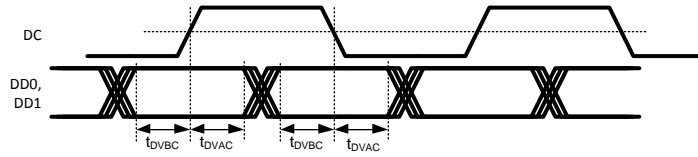

Figure 2. Serial Data Valid
| $t_{DVBC}$                     | Serial Data Valid before Clock Edge | SER Data Pulse Width <a href="#">Figure 2</a> , (2) (3) | 0.3 |                    | 0.7 | UI          |